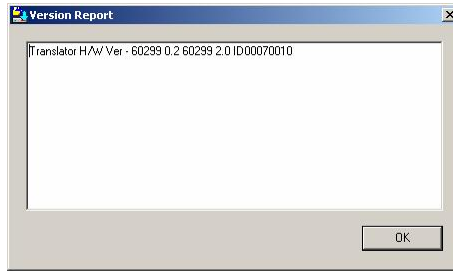

Figure 47 Hardware version report
3. Click **H/W Version**. The hardware version of the Translator appears, see Figure 47.